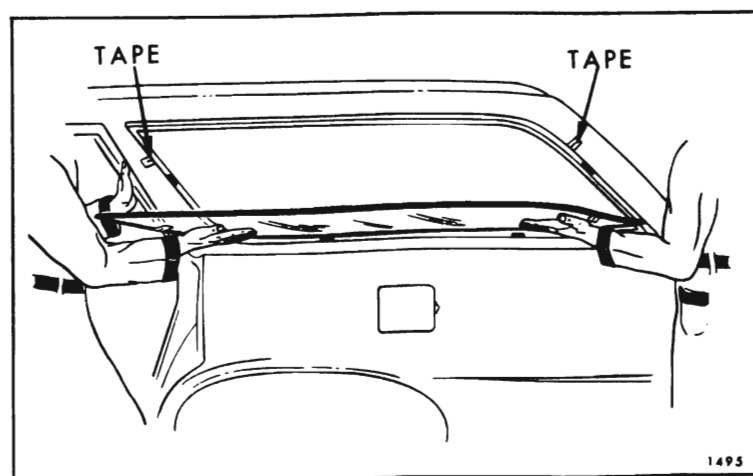
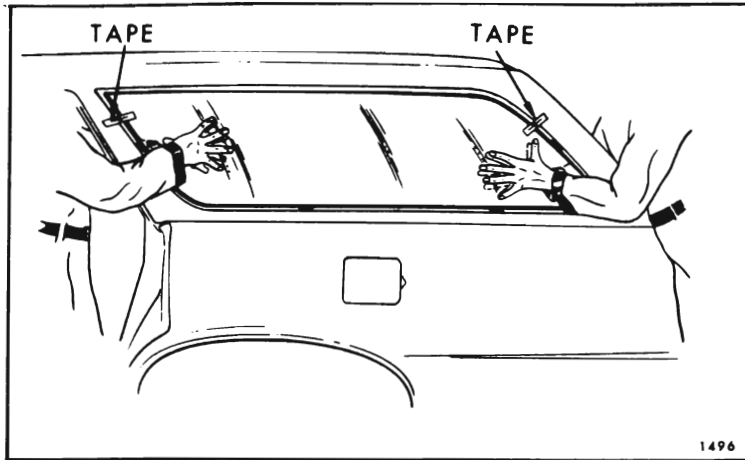

Fig. 8-22—Stationary Quarter Window Installation
Fig. 8-23—Stationary Quarter Window Installation
4. Position glass in opening by making contact along upper edge first and then swing in lower edge (see Fig. 8-22 and 8-23).
7. After final adjustments have been made and glass is in proper position, apply a piece of masking tape horizontally over front and rear edges of glass and body pillars (Fig. 8-23), so that tape on glass can be aligned with tape on body and act as a guide when glass is installed.
14. Install glass (see Fig. 8-22 and Fig. 8-23). Make certain that glass sets properly on spacers and does not have to be shifted after material contacts pinchweld flange. Align tape on glass with tape on body to guide window into opening.